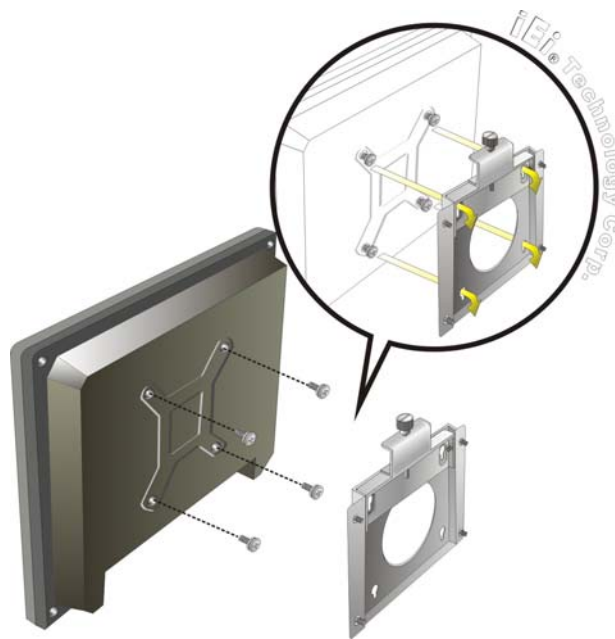

Figure 4-11: Chassis Support Screws
Step 6: Insert the four monitor mounting screws provided in the wall mount kit into the four screw holes on the rear panel of the flat bezel panel PC and tighten until the screw shank is secured against the rear panel (**Figure 4-11**).
- Step 8:** Carefully insert the screws through the holes and gently pull the monitor downwards until the monitor rests securely in the slotted holes (**Figure 4-11**). Ensure that all four of the mounting screws fit snugly into their respective slotted holes.